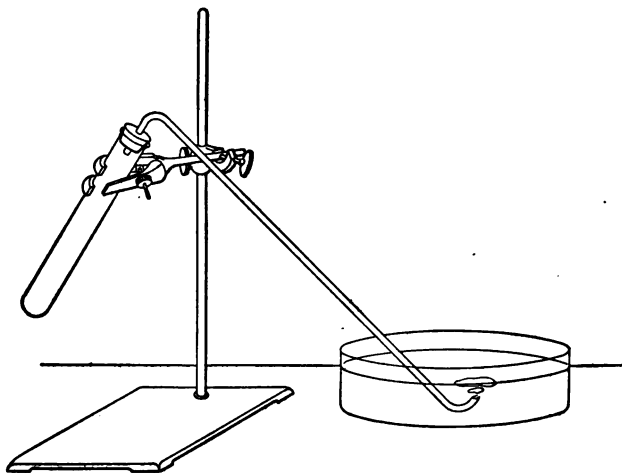

FIG. 21.
P. Now there are bubbles coming (Fig. 21).